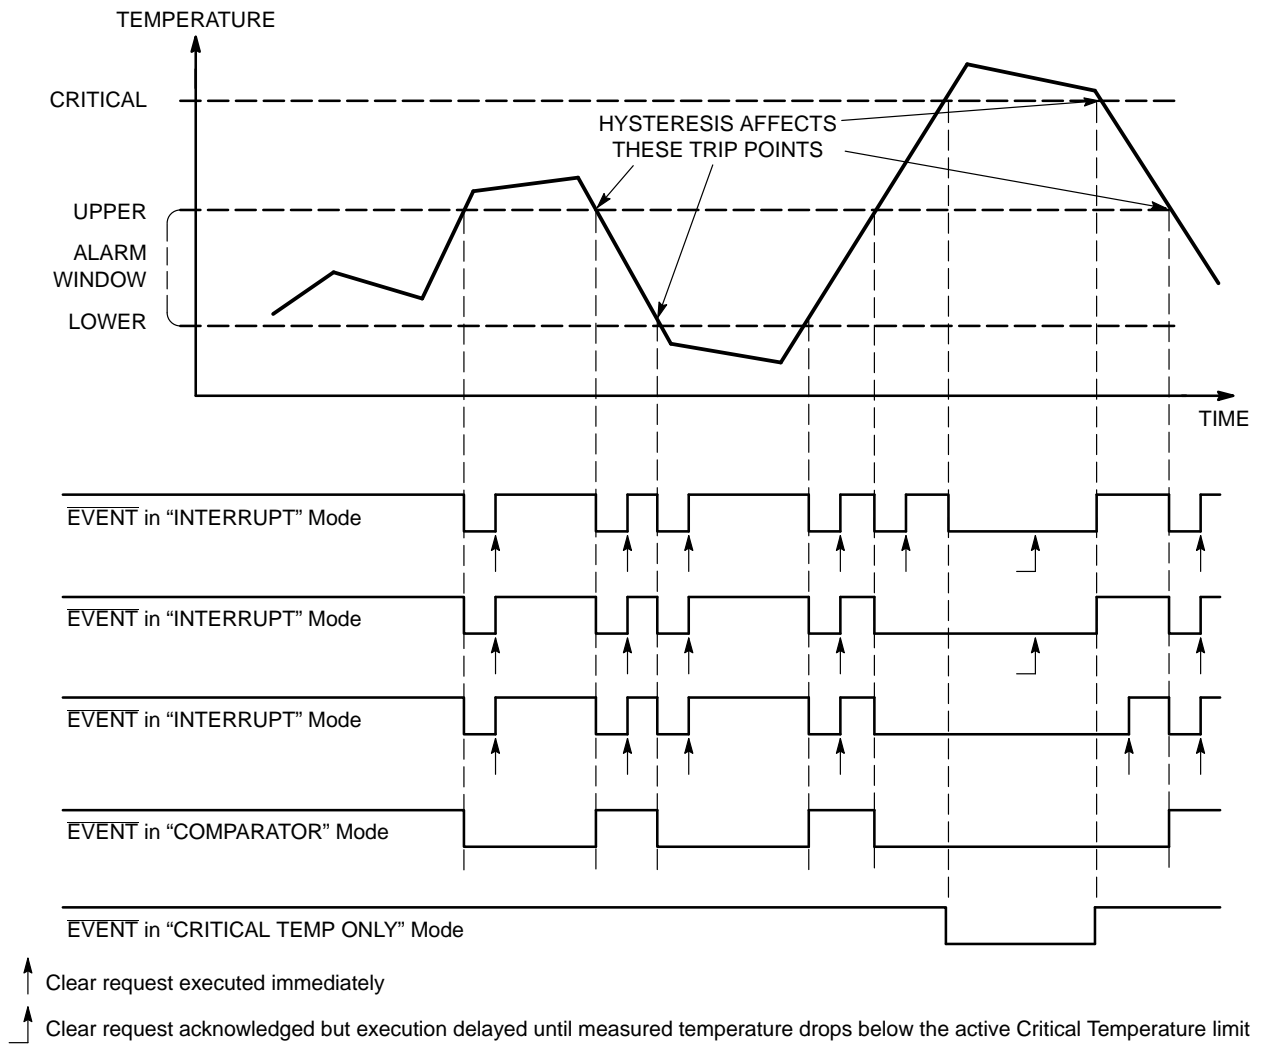

Figure 33. Event Detail
16. Writing a '1' to this bit clears an event condition in Interrupt mode, but has no effect in comparator mode. When read, this bit always returns 0. Once the measured temperature exceeds the critical limit, setting this bit has no effect (see Figure 33).